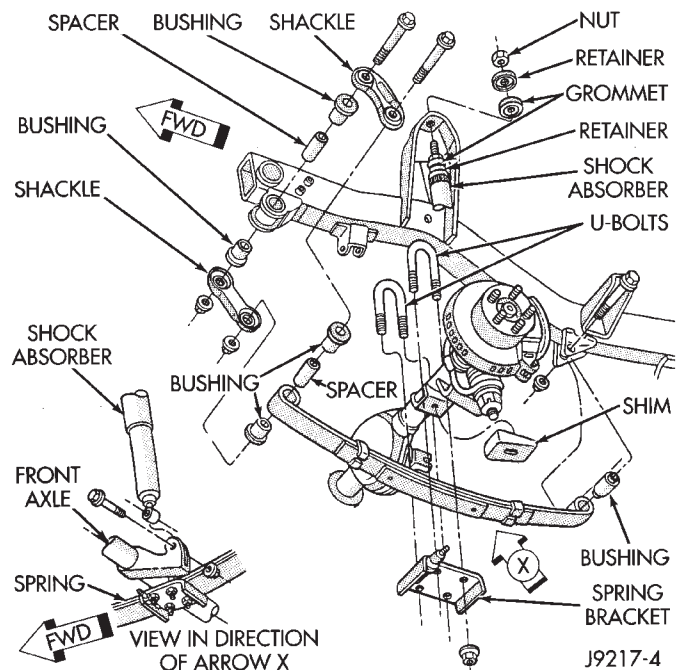

Fig. 3 YJ Front Suspension
The Wrangler (YJ) front suspension is leaf spring design comprised of (Fig. 3);